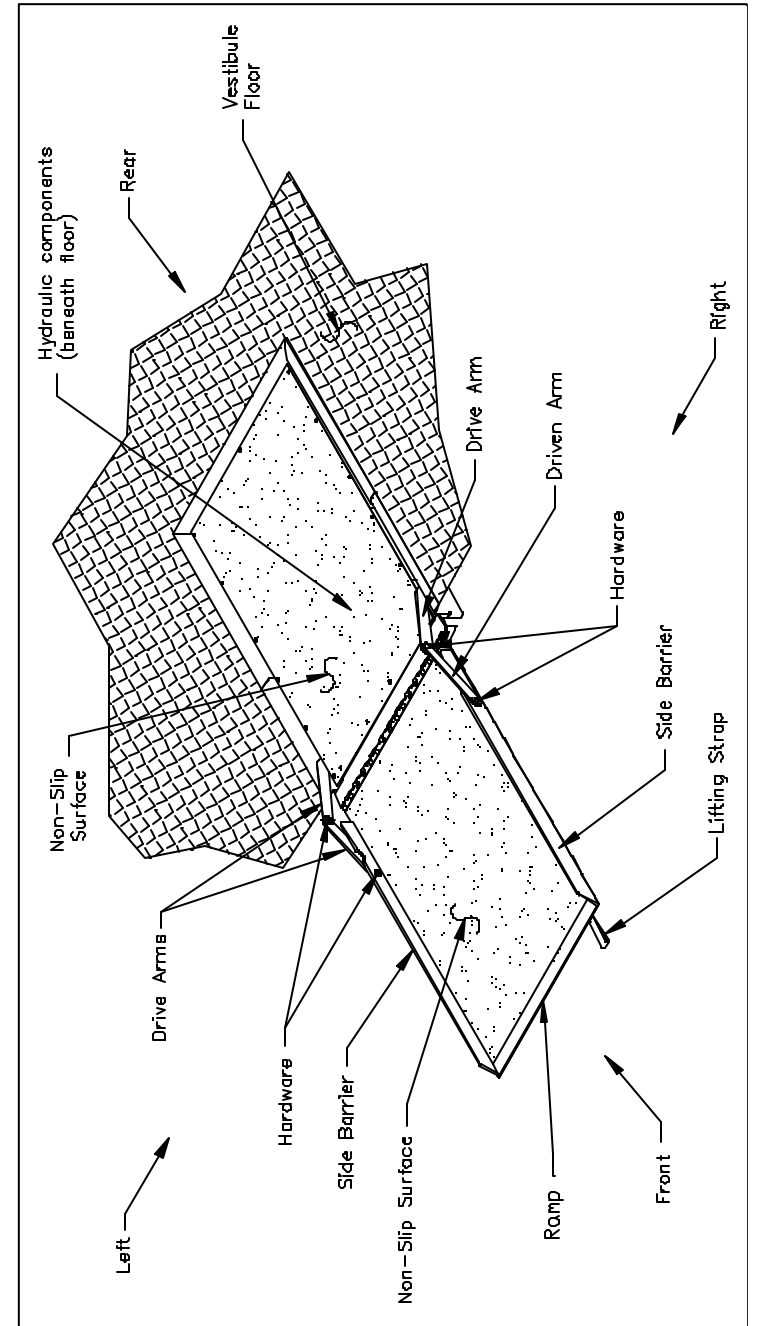

FIGURE 2-3: MAJOR RAMP COMPONENTS
Figure 2-3 shows major components of the FoldOver Ramp. A description of each component is provided in Table 2-2.
- 1) Grasp lifting strap at front edge of ramp (refer to **Figure 2-3** in Chapter 2 for an illustration of strap location).